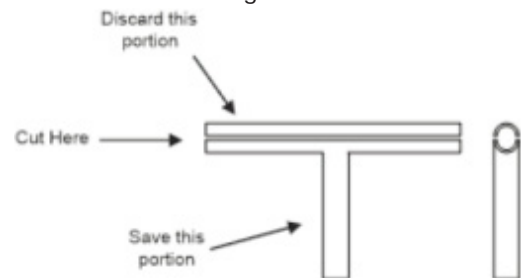

Figure 2
4. Use the tees, rebar, and nylon cable ties to hold the loop cable in place at least 2" above the concrete reinforcing steel. See Figure 2. The lead-in cable can be tied directly to the concrete reinforcing steel.
- If the thickness of the concrete slab and/or the depth of the reinforcing steel below the top of the slab is such that the minimum dimensions shown in Figure 2 cannot be achieved, contact Technical Support.